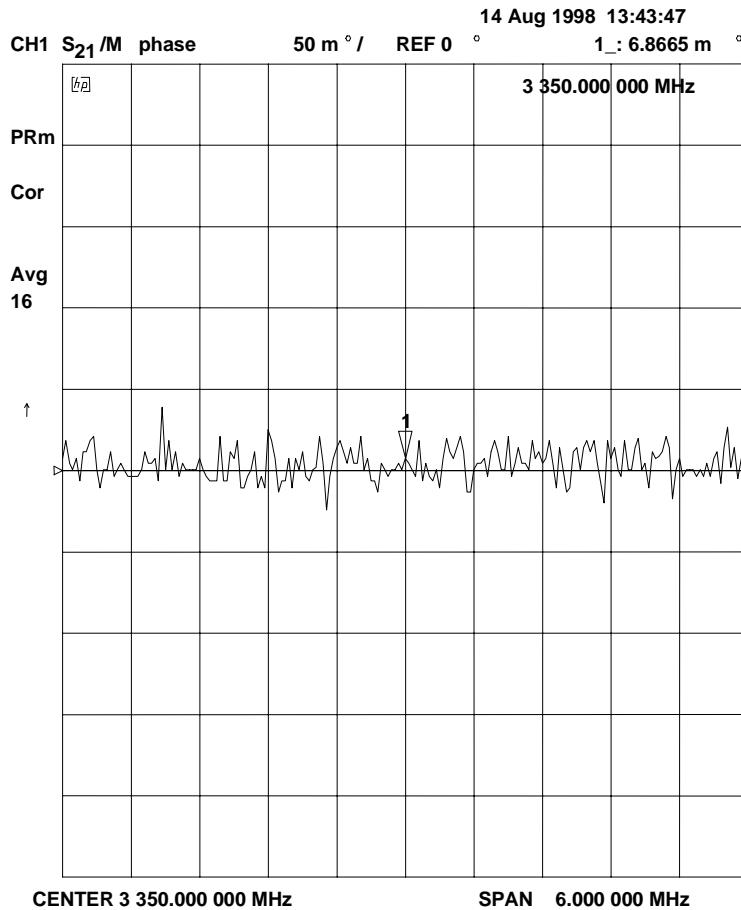

Figure 4. Channel 1 Path 2 Phase Alignment
7. Set the 8753D format to Phase, use the "autoscale" function to adjust measurement range and resolution. Adjust the Channel 1 Path 2 (next path) phase setting on the 4500 FLEX until the 8753D reads less than 0.1 degrees (Figure 4). Record this phase setting as the phase offset for Channel 1 Path 2 (next path).